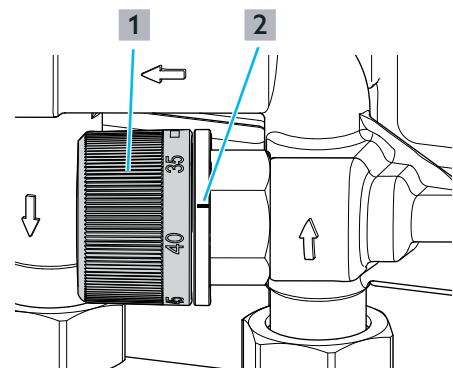

Fig. 17: Setting the derivative temperature control set
- ▶ Set the temperature to the desired value on the handwheel ((1) in Fig. 17 on page 23) of the derivative temperature control set.